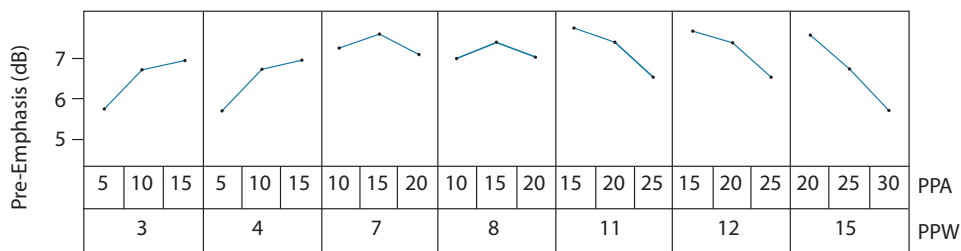
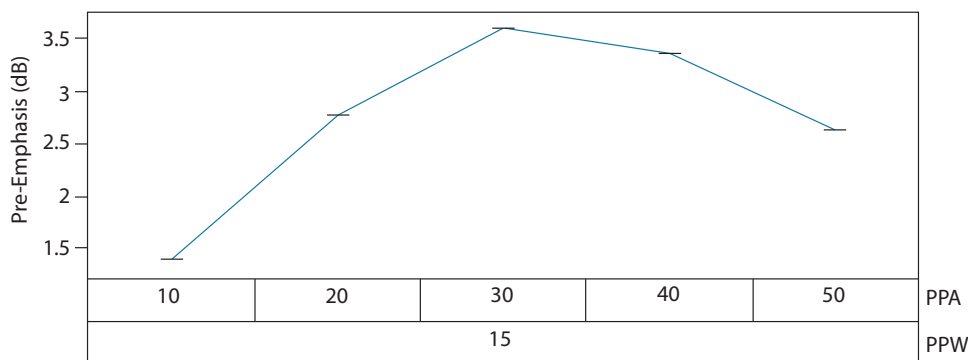

Figure 4-12: Pre-emphasis settings for $VCCO_{<n>}$ = 1.2V and DS = 7 (swing = 200mV_{pp})
Figure 4-19: Pre-emphasis settings for $VCCO_{<n>} = 2.5V$ and $DS = 35$ (swing = $800mV_{pp}$)
The only requirement of the trace driver pre-emphasis settings is to minimize ISI introduced by a lossy link and maximize the eye opening at the receiver. The Pre-emphasis compensation of the GS12142 output channel is a two-step process. The first step is to use the settings from Figure 4-12 to Figure 4-19 that best match the insertion loss of the link in the application, while the second step is a fine optimization procedure.
1. Pre-emphasis Amplitude (PPA) Optimization: Set the PPA and PPW to the values obtained from the graph selected out of Figure 4-12 to Figure 4-19, and then measure the downstream jitter. While keeping PPW constant, increment the PPA by 'a'. If the jitter is lower after the first increment, continue to increment by 'a' until the jitter begins increasing or a setting of 50 is reached. If there was a setting which resulted in a lower jitter measurement than the initial setting, that is the Optimized Pre-emphasis Amplitude setting: $PPA_{Optimal}$, and the PPA optimization procedure is complete.
If incrementing the PPA or decrementing the PPA did not result in a setting with lower jitter, then the initial setting obtained from the graph selected out of Figure 4-12 to Figure 4-19 is the PPA optimized Pre-emphasis Amplitude setting: $PPA_{Optimal}$.
2. The second step is to set the PPA to the optimized setting $PPA_{Optimal}$ determined in step 1 and PPW to the values obtained from the graph selected out of Figure 4-12 to Figure 4-19, then measure the downstream jitter. While keeping PPA constant, increment the PPW by 'w'. If the jitter is lower after the first increment, continue to increment by 'w' until the jitter begins increasing or a setting of 15 is reached. If there was a setting which resulted in a lower jitter measurement than the initial setting, that is the Optimized Pre-emphasis Width setting: $PPW_{Optimal}$, and the optimization procedure is complete.
If incrementing the PPW or decrementing the PPW did not result in a setting with lower jitter, then the initial setting value obtained from the graph selected out of Figure 4-12 to Figure 4-19 is the optimized Pre-emphasis Width setting: $PPW_{Optimal}$.